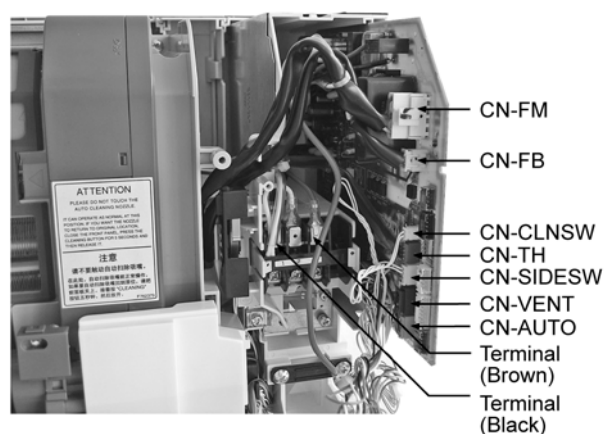

Fig. 5
10. Releasing the CN-FM, CN-FB, CN-CLNSW, CN-TH, CN-SIDESW, CN-VENT & CN-AUTO. (Fig. 5)